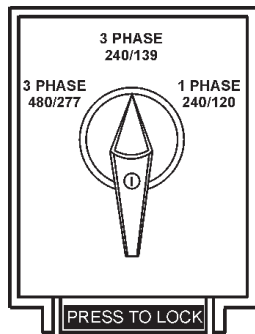

Figure 21. Voltage Selector Switch 240/139V Three-Phase Position
1. Place the voltage selector switch in the 3Ø 240/139V position as shown in Figure 21.